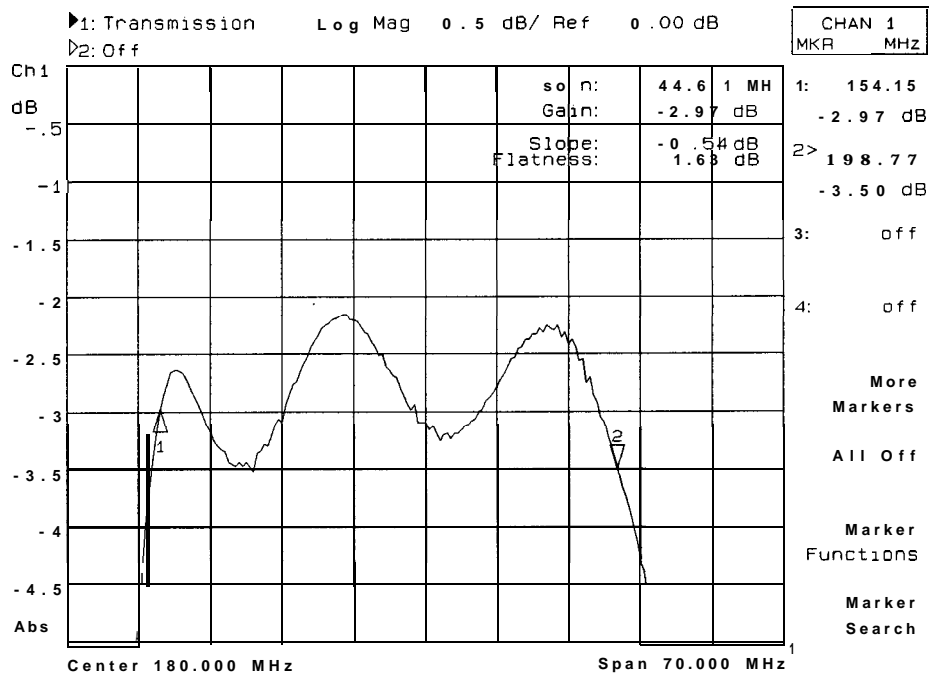

Figure 4-13. Marker Flatness Function
3. Figure 4-13 shows a defined trace segment. Notice the marker readout in the upper right corner of the display.